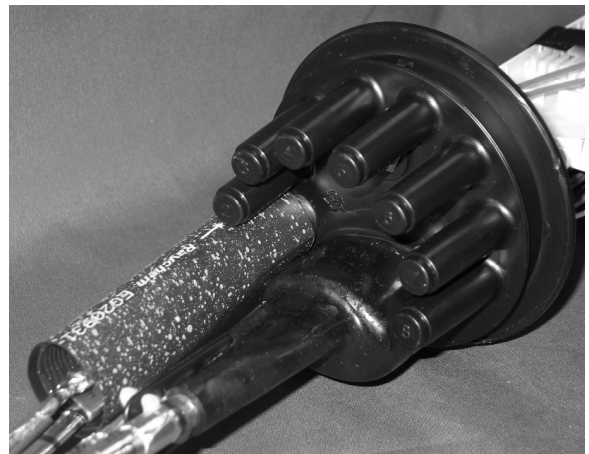

Figure 9
- Slide the port seal up over the port making sure the arrow is pointing towards the closure base. Place a tie wrap around the cables, below the port seal. (Figure 9)